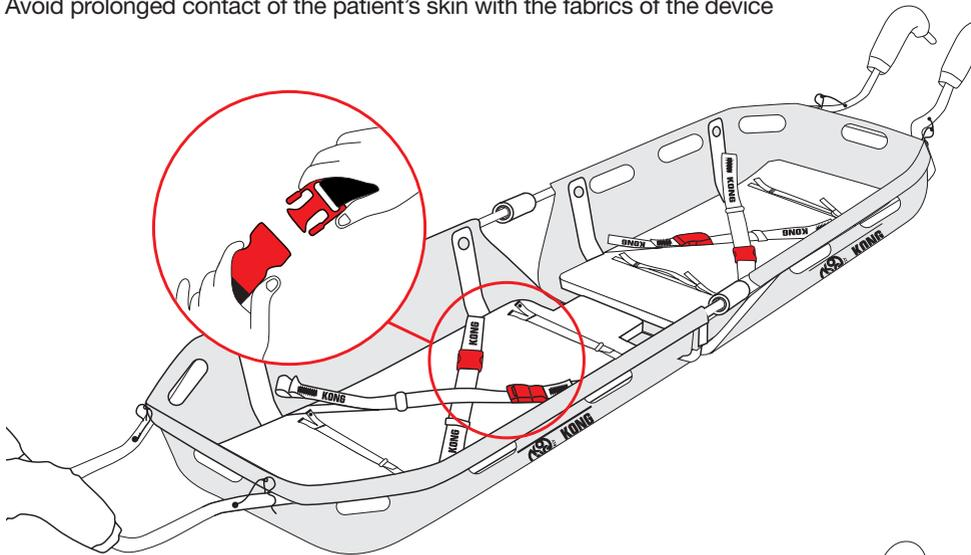

Fig.11
- Unhook the buckles and open the securing straps (Fig. 11),